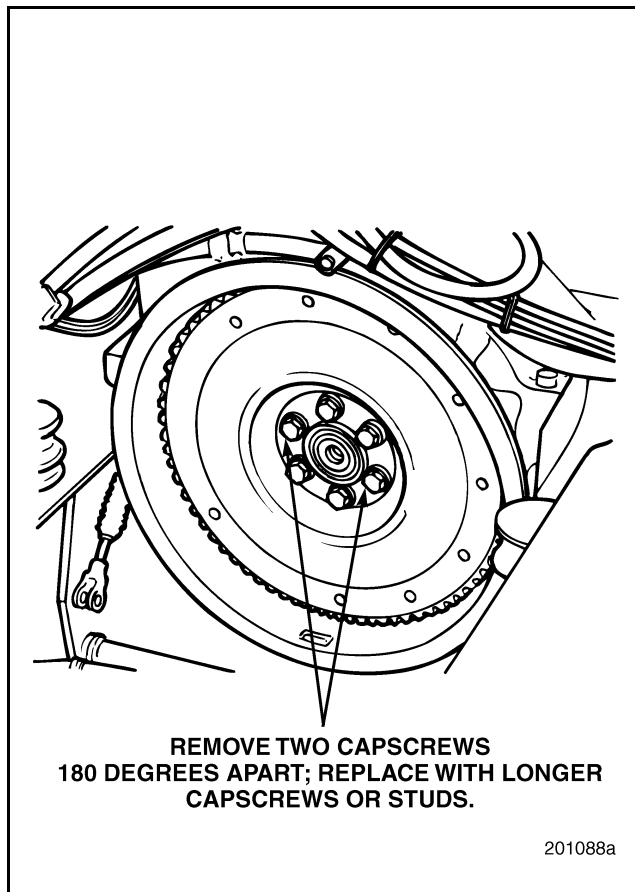

Figure 182 — Flywheel Removal
2. Remove two of the flywheel retaining capscrews that are opposite each other (Figure 182). Then, install two longer capscrews or studs to allow the flywheel to be safely removed from the crankshaft.